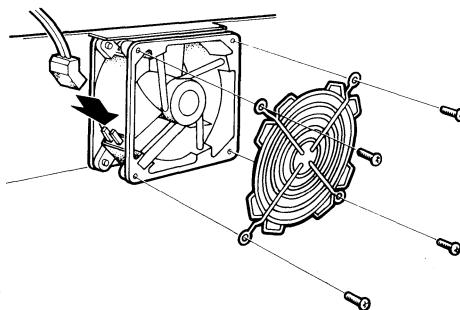

Figure 6-28 Connect the Front Fan Power Cable and Fan Guard
1. Remove the power cable and fan guard (if present) from the intake side of the old fan and fit them to the replacement fan (Figure 6-28).
**The front fan power cable is not keyed. Observe the polarity of the connector. The curve of the connector must match the curve of the fan housing as shown in Figure 6-28.**